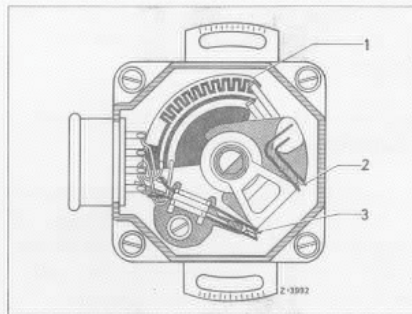

FIG.14
3. The THROTTLE VALVE SWITCH (Fig. 14) which is attached to the throttle shaft, has several functions.